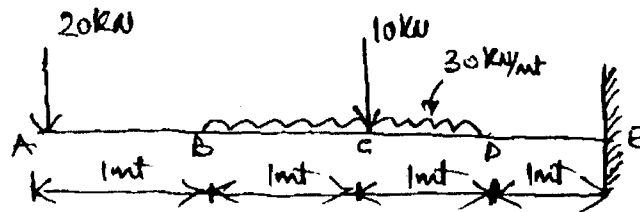

Fig.Q6(b)
- b. Plot the elastic curve and find maximum slope and deflection (maximum) for cantilever beam shown in Fig.Q6(b). Take  $EI = 6 \times 10^{13}$  N mm2. (14 Marks)